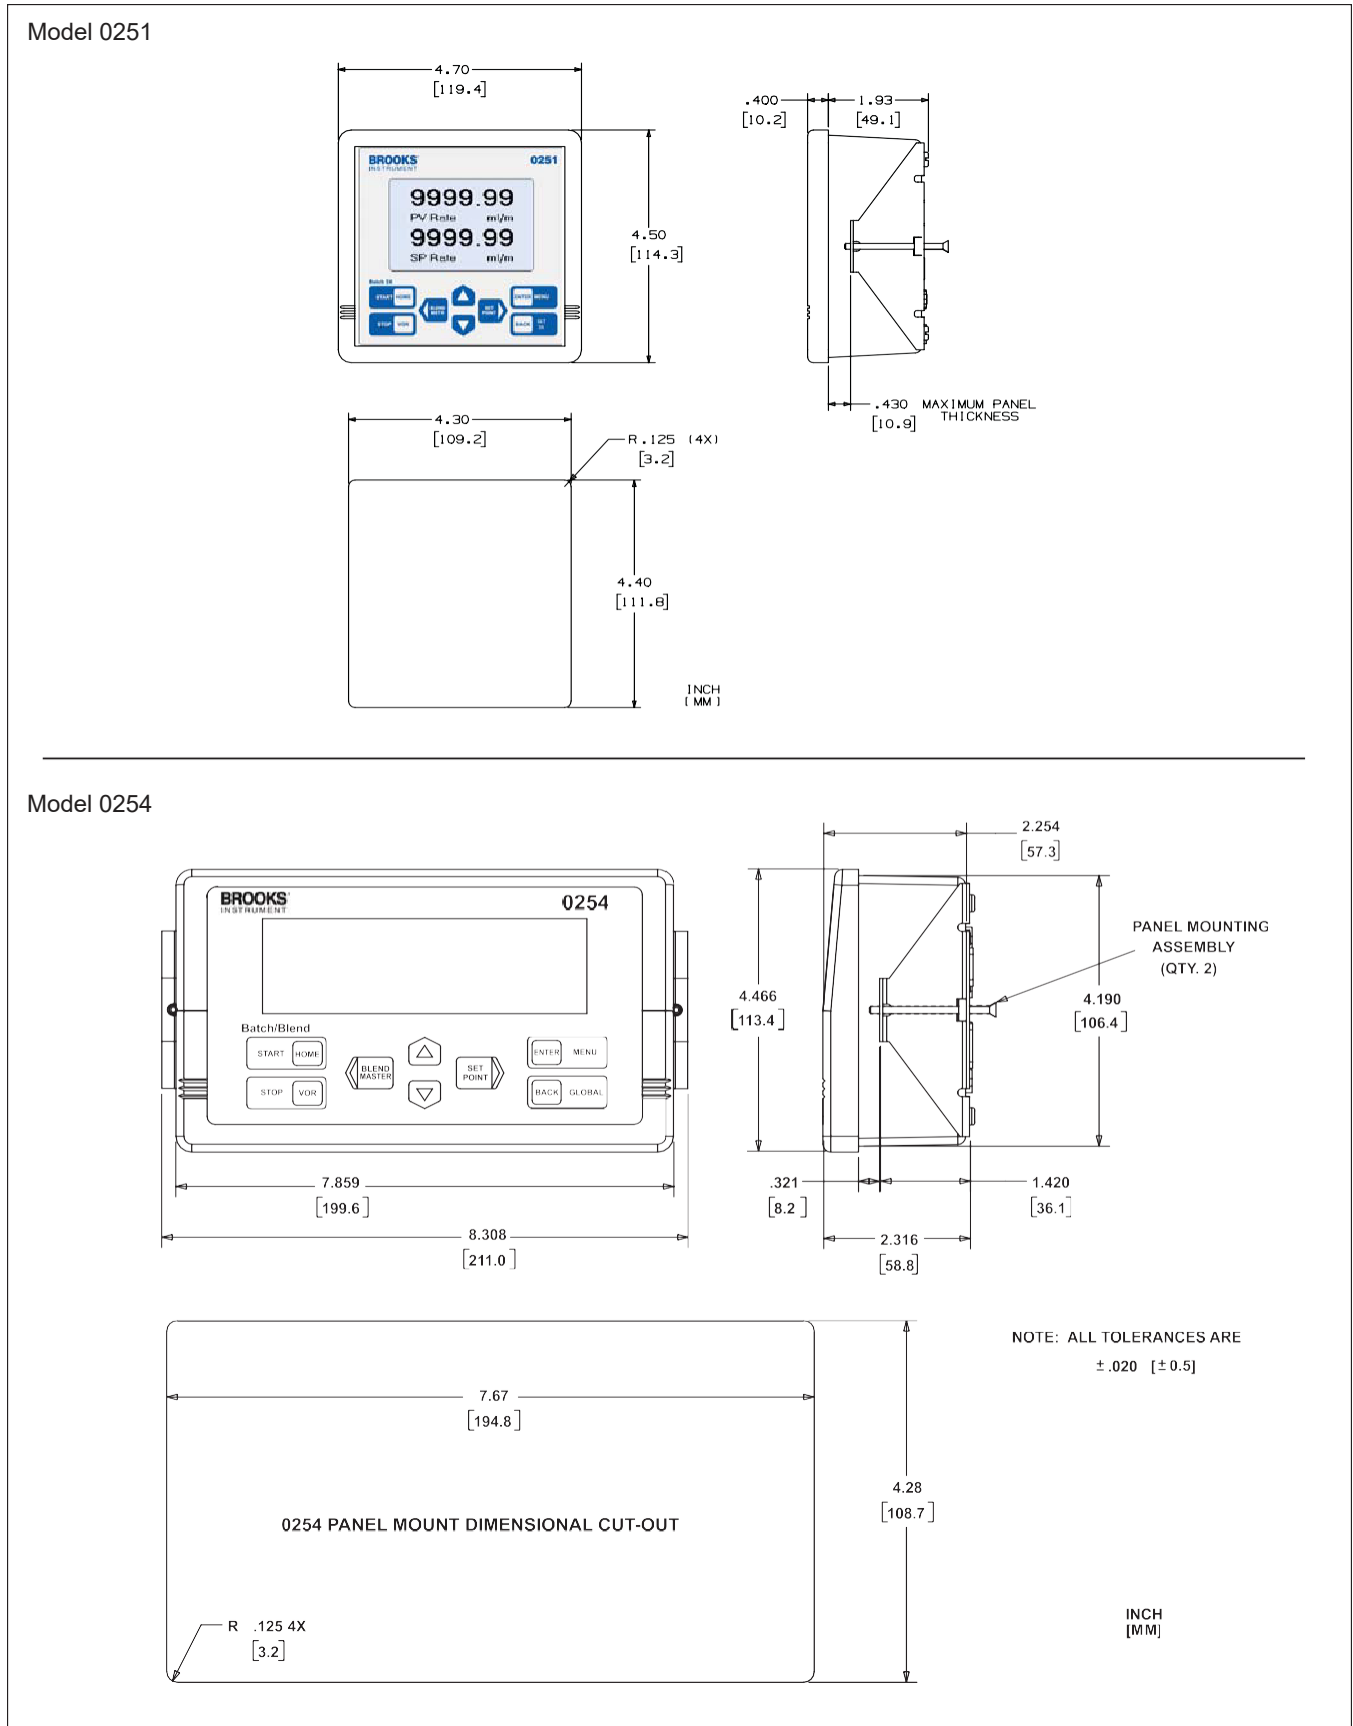

Figure 2-1 Panel Mount Cut-Out Dimensions
1. Cut a hole according to the cut-out dimensions shown in Figure 2-1.